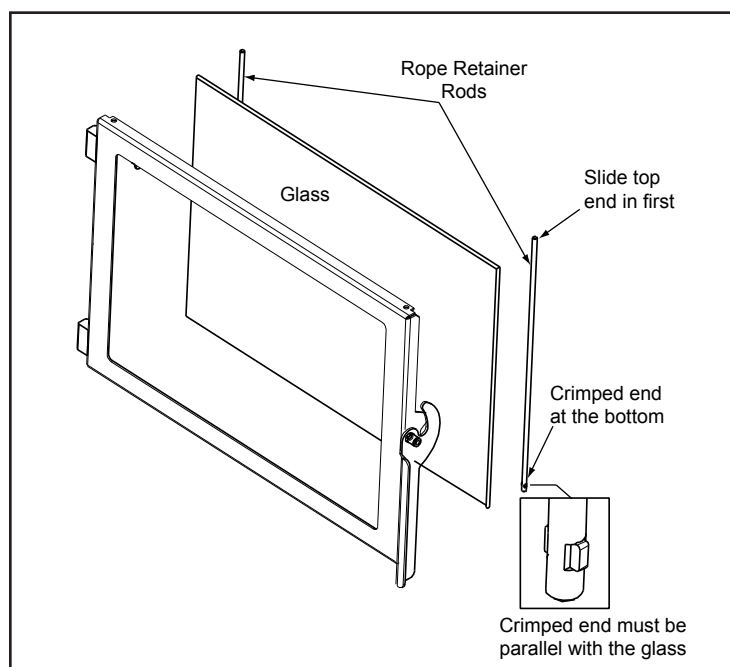

Figure 33.1
- Slide the retainer rod into the top hole first, and then line up the bottom crimped end with the hole in the door. The crimped end must be parallel with the glass in order to insert it into place. **Figure 33.1.**